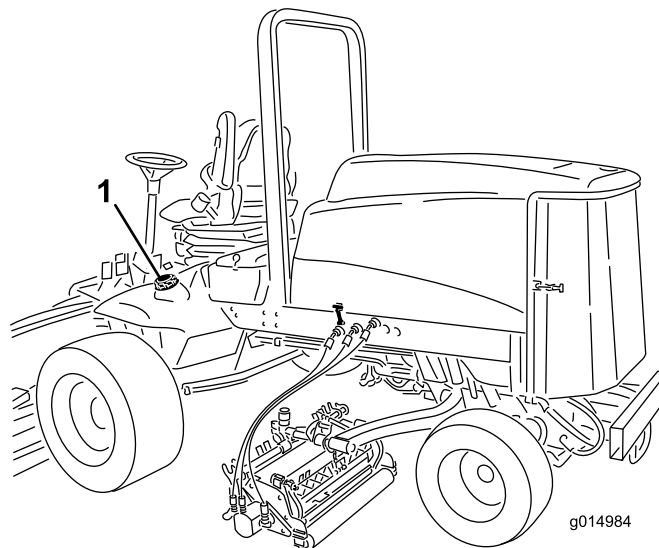

Figure 37
1. Remove the fuel tank cap (Figure 37).